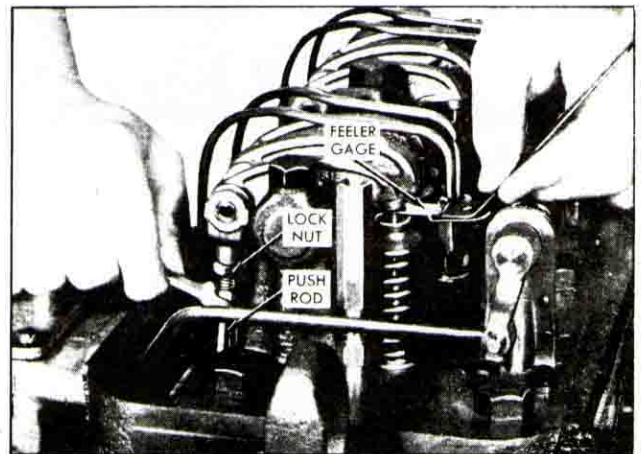

Fig. 7 - Adjusting Valve Clearance
4. Place a .013" feeler gage J 9708 between the valve stem and the rocker arm, see Fig. 7. Adjust the push rod to obtain a smooth pull on the feeler gage.